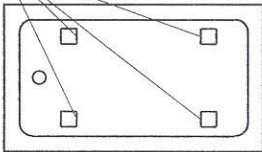

FIGURE 2
- For drop-in applications: Bring the tile or finish surface to the inside edge of the tub rim and seal with silicone caulk (as shown in Figure 2, left).